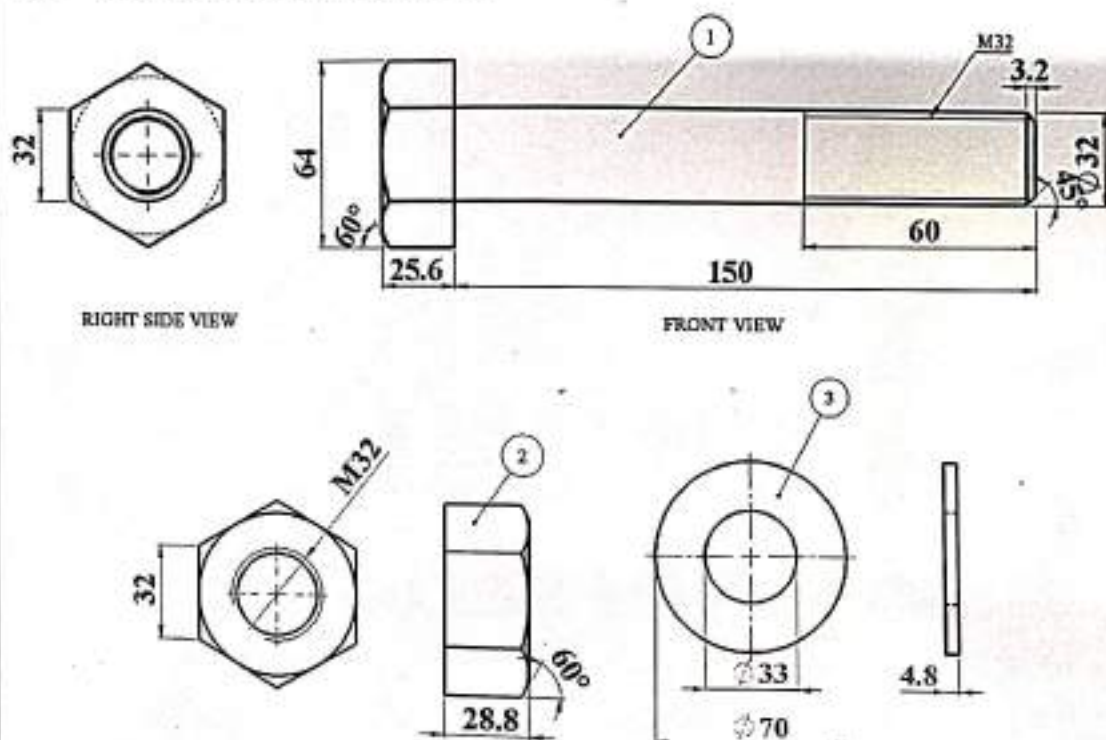

Figure 2
- 7 Create a 3D assembly of Hexagonal headed bolt and nut with washer and generate the following views. Part drawings are shown in Figure2.